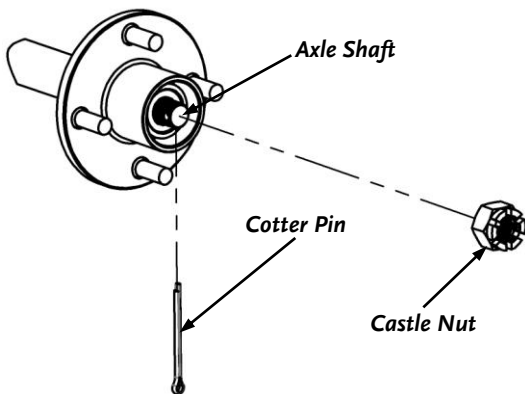

Figure 60
5. Using Needle Nose Pliers straighten the Legs of the Cotter Pin and remove it from the Castle Nut (**Figure 60**) and then unscrew and remove the Nut from the Axle Shaft counterclockwise.
12. Align a Slot in the Castle Nut with the Hole in the Axle Shaft and insert a new Cotter Pin fully into the Castle Nut (**Figure 60**). Bend over the Legs of the Cotter Pin with Needle Nose Pliers and cut off the excess using Wire Cutters.